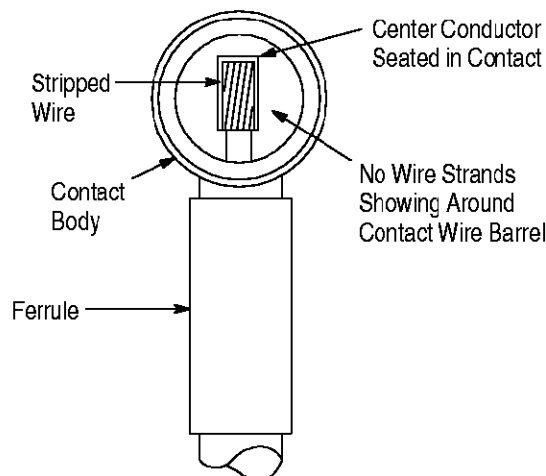

Figure 5
3. Twist wire strands; then insert center conductor into contact body, making sure center conductor is FULLY seated in the contact body. No wire strands should be sticking out around the wire barrel of the contact assembly, as shown in Figure 5.